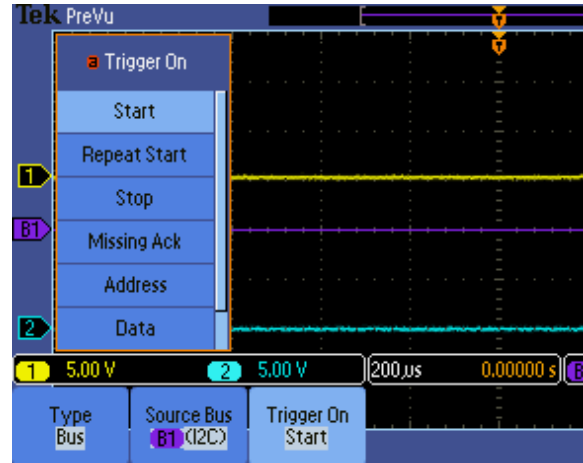

Figure 10: Tek trigger conditions
14. The “Trigger On” softkey is used to select the I²C condition that will cause the scope to acquire data. For most purposes a “Start” condition works best. If the softkey doesn’t say “Start”, press the softkey to bring up the “Trigger On” menu (Fig. 10) and use the Multipurpose (a) knob to set it for triggering on a I²C Start condition.